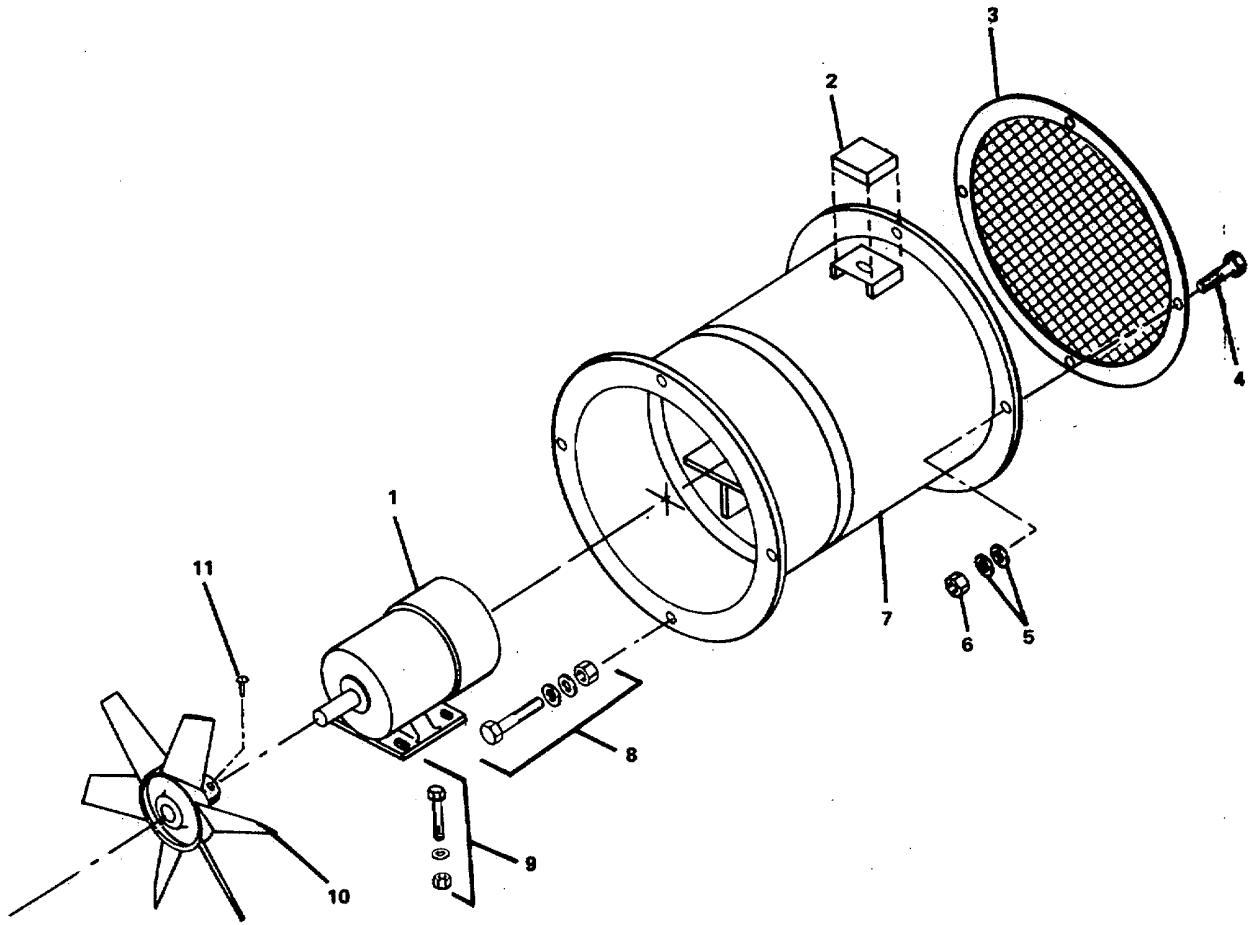
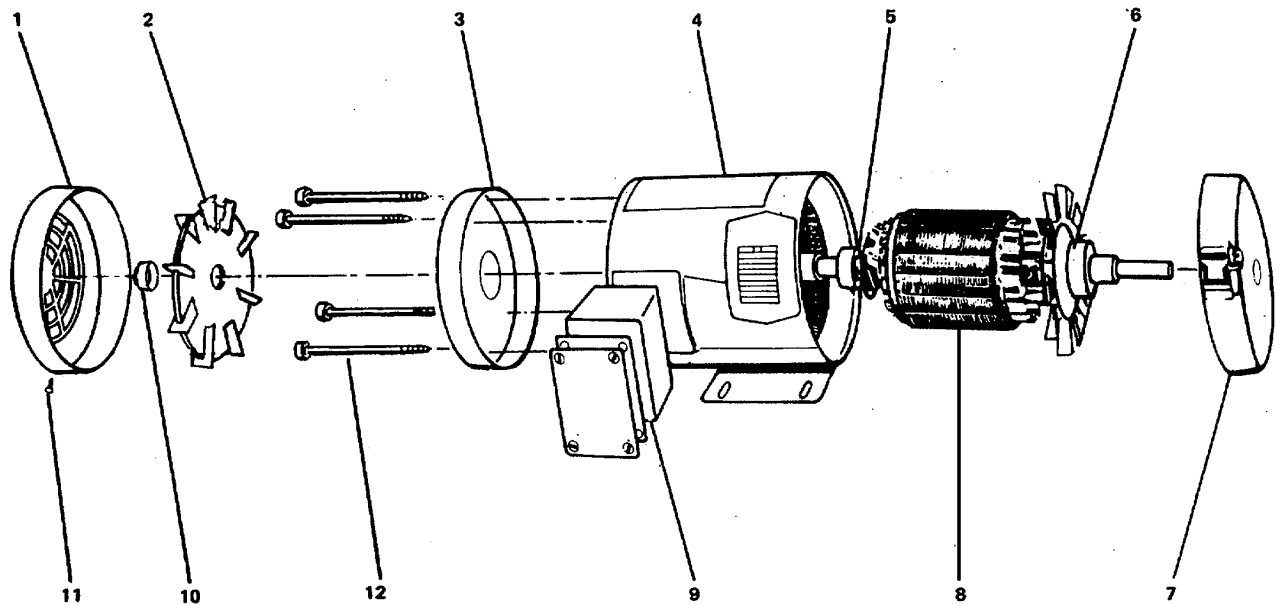

Figure 2-19. Ventilating Fan (Exhaust Fan #3).
Figure 2-20. *Alternating Current Electric Motor (EF #3).*
- a. Tag and disconnect electrical wiring from conduit box (2, FIGURE 2-19).
- b. Support the fan assembly and remove mounting bolt, nut, and washer assemblies (8) from bulkhead end of the fan drum (7).
- (2) Tag and disconnect electrical wiring from terminal box (9, FIGURE 2-20).
- (3) Loosen setscrew (11, FIGURE 2-19) and remove the impeller (10) from the shaft of the motor (1).
- (4) Remove mounting bolt, nut, and washer assemblies (9).
- (5) Withdraw the motor (1) from the fan drum (7).
b. Removal of bearings (refer to FIGURE 2-20):
- (1) Remove screws (11) and fan cover (1) from motor housing (4).
- (2) Remove locking hub (10), external fan (2), thru bolts (12), and end plates (3) and (7).
- (3) Remove rotor (8) from motor housing (4).
- (4) Remove annular ball bearing (5) from non-drive end of the rotor (8) with a puller.
- (5) Remove bearing (6) from drive shaft with a puller.
c. Replacement of bearings (refer to FIGURE 2-20):
- (1) Install new bearing (6) onto drive shaft with a press.
- (2) Install new annular ball bearing (5) onto non-drive end of the rotor (8) with a press.
- (3) Position the rotor (8) in the motor housing (4).
- e. Replacement of motor (refer to FIGURE 2-19):
- (1) Position the motor (1) on its mounting surface in the fan drum (7).
- (2) Install mounting bolt, nut, and washer assemblies (9). Secure bolts firmly.
- (3) Install impeller (10) onto shaft of motor (1). Tighten setscrew (11) firmly.
- (4) Connect the electrical wires to terminal box on motor.
- (5) Install screen (3) with nuts (6), washers (5), and bolts (4).
- a. Position the fan and install mounting bolt, nut, and washer assemblies (8, FIGURE 2-19) in bulkhead end of the fan drum (7). Secure bolts firmly.
- b. Connect wiring to conduit box (2).
- (1) Turn electrical power ON.
- (2) Start and run fan to check operation.
- (3) Remove "Out of Service" tag from circuit.
2-31. Repair Fan, Ventilating (Exhaust Fans #4 and #6)..(FIGURE 2-20)